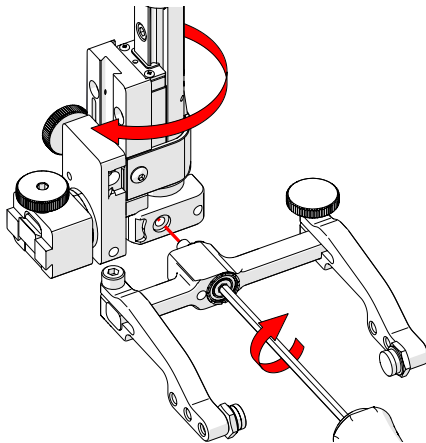

Fig. 162 - Screw yoke to opposite side
6. Mount the yoke to the opposite side of the base using the supplied 3 mm hex driver (Fig. 162).